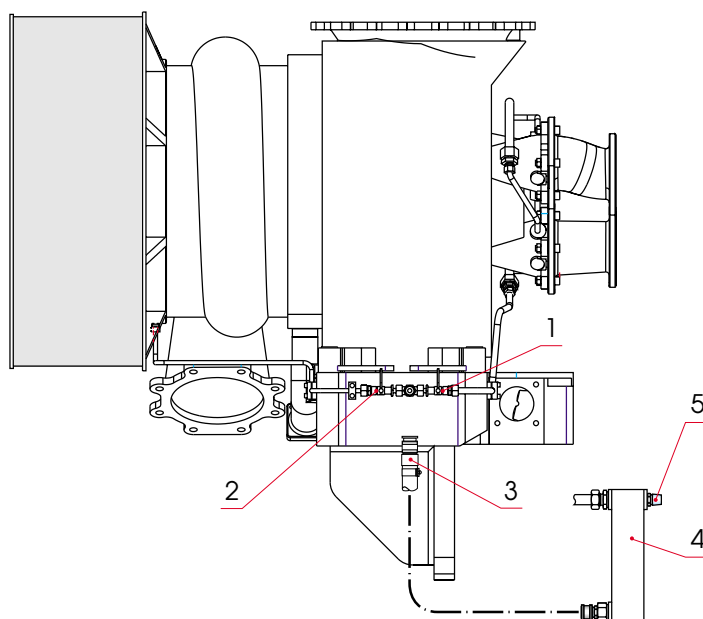

Fig 15-2
**3 Open the valve (1)** and check that the nozzles are not clogged, see Fig 15-2.
**5 Open the valve (5)** slowly within 10 s and increase the water flow until the correct flow is reached according to the table shown above. Lock the valve (5) by using the counter nut.
**6 Close the valve (1) after 60 seconds.** Interval between injections is 90 sec.
**10 Open the valve (1)** and drain out the water.
**2** Open the valve (2), see Fig 15-2.
**4** Use same adjustment as for turbine side, i.e. wash the turbine side first and lock the valve (5) by using the counter nut, see Fig 15-2.